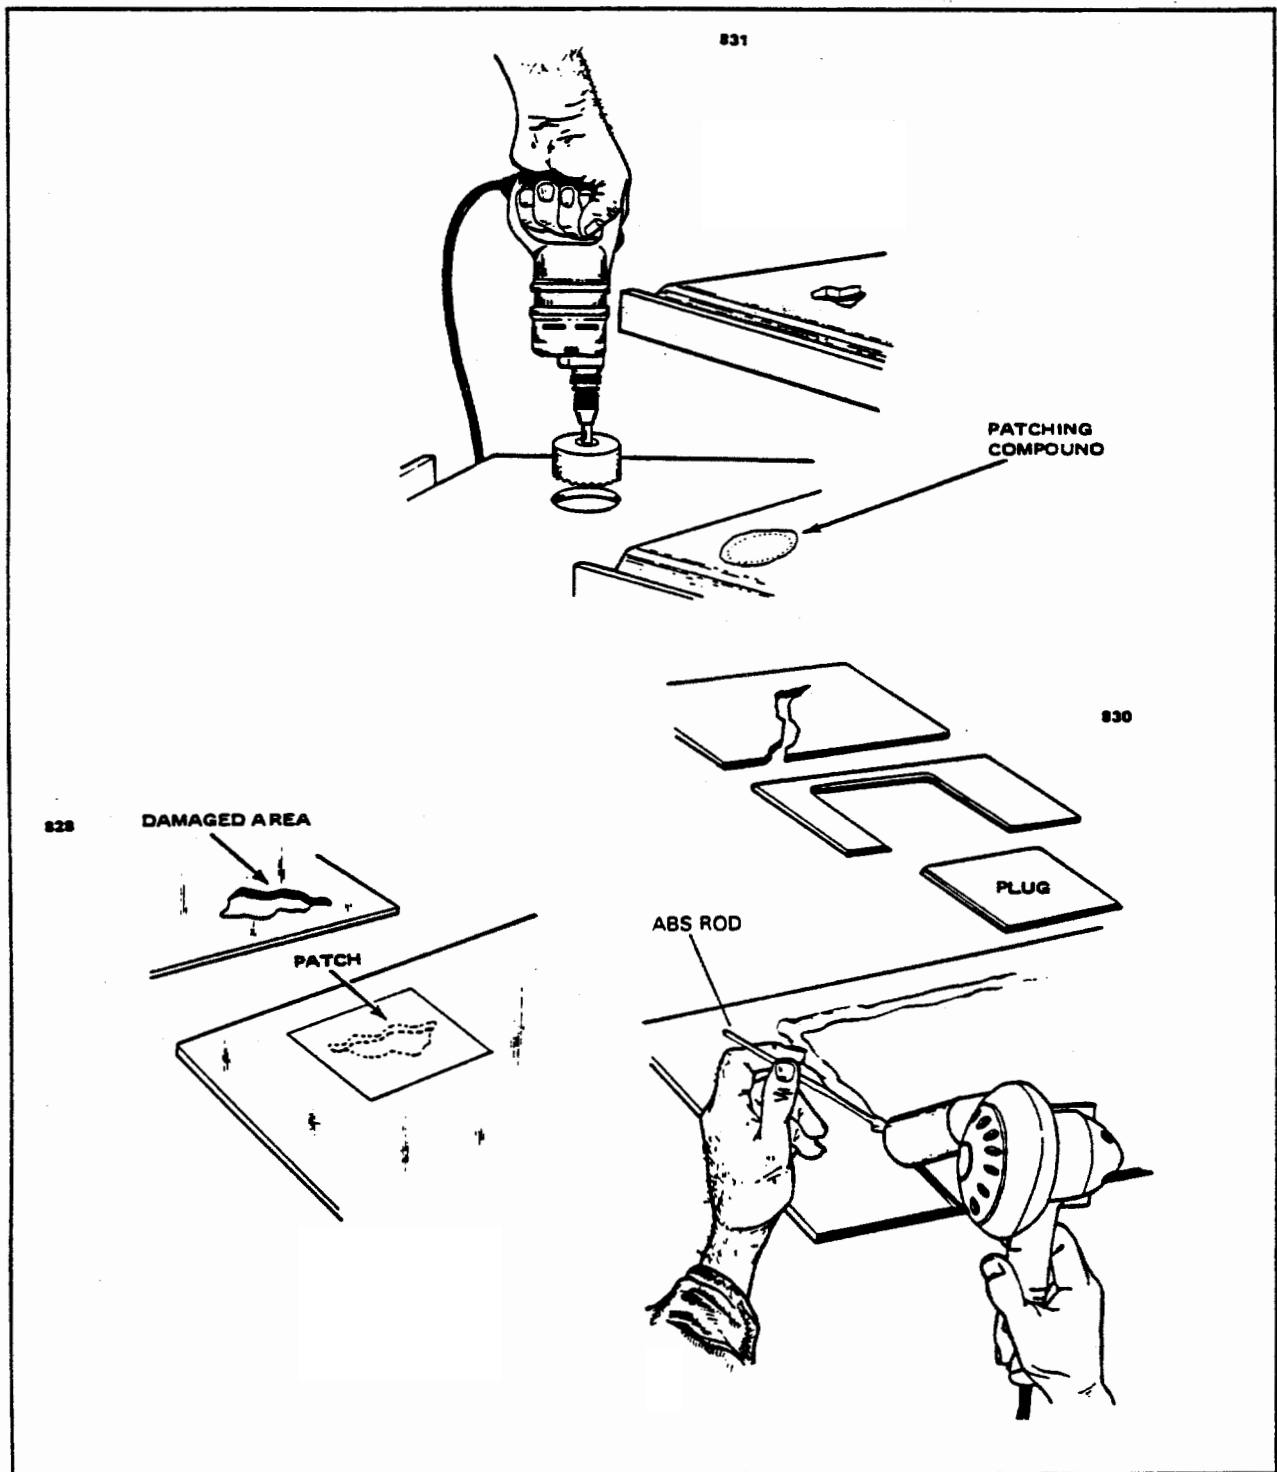

Figure 4-13. Various Repairs
- e. Repairing Major Damage: (Larger than 1 inch in diameter.) (Refer to Figure 4-13.)